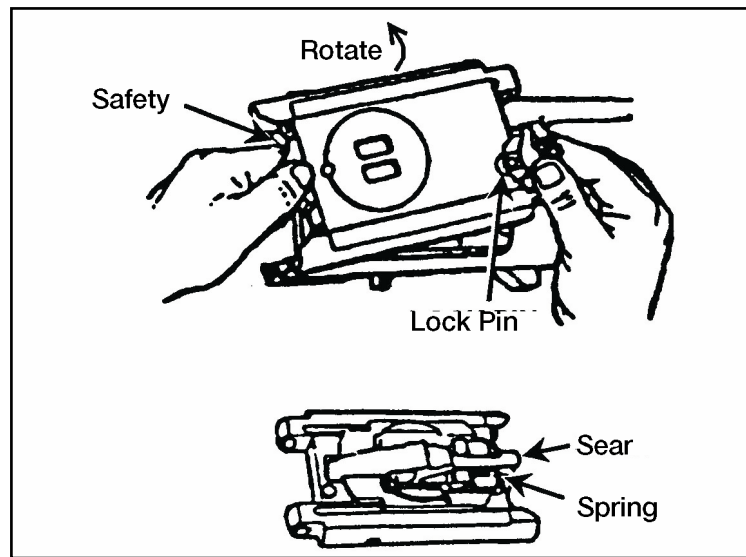

Figure 071-030-0001-14. Removal of the receiver sear assembly
(3) Lift up on the lock plunger to retract it; slide the charger assembly all the way to the rear.
(4) Pull the charger assembly away from the receiver.
k. Remove the receiver sear assembly (figure 071-030-0001-14).